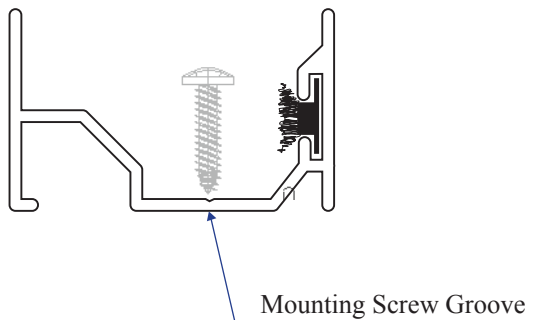
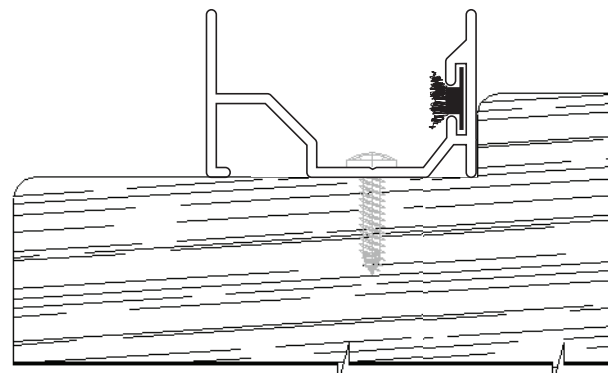

Figure 4
Figure 5
Drill two (2) 5/32" holes in the closer (#R8025), approximately 4" from each end, using the mounting screw groove. (Figure 4). Install Closer using #6 x 1" pan head screws provided, in the same position the hinge was installed, in the opposite jamb. Proper positioning of the closer is indicated by the weather-strip towards the door stop and main door (Figure 5). This must be on the same side as the flat of the housing. The closer is notched on both ends to accept the head and still tracks.